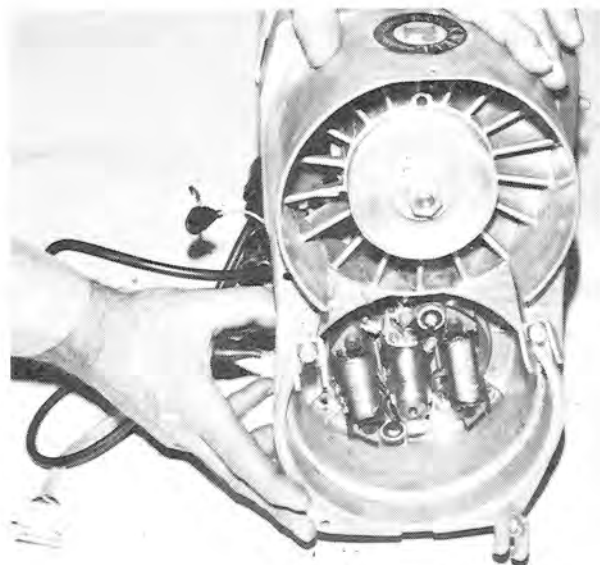

FIG. 1-17
Remove screw holding spark plug wire bracket to fan housing. With a socket type 5 mm Allen wrench and impact driver, remove the four (4) mounting bolts holding fan housing to crankcase. (See Fig. 1-16). Remove fan housing from crankcase (See Fig. 1-17).